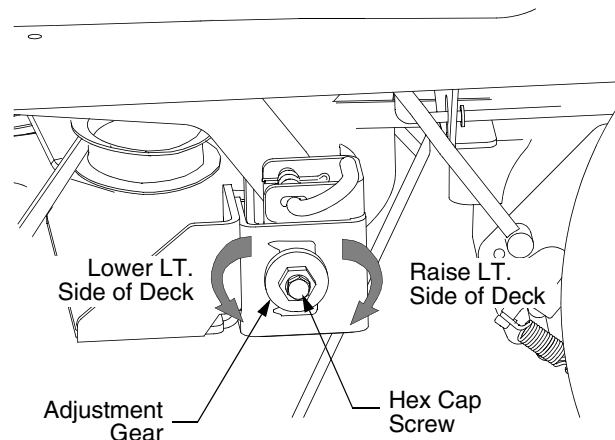

Figure 31
- Loosen, but do not remove, the hex cap screw on the left deck hanger bracket. Refer to Figure 31.